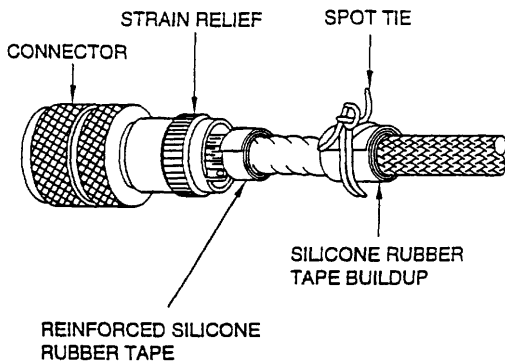

Figure 33. Saddle Clamp Removal
29. **Connector Accessory Entry Protection.** On a protected harness the rear entry of connector should be protected as shown in Figure 33. To repair wires or cable in this area, remove the accessory as follows:
- b. Loosen the cable clamp screws. If necessary, remove one side of the saddle clamp but retain the loose screw in the saddle clamp (Figure 33).